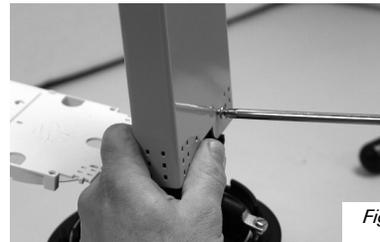

Fig. 3
2. Insert two screws (supplied with basket) through the holes in the bottom of the basket, and through the corresponding two holes in the tray bracket. Tighten screws completely. (Figure 3)